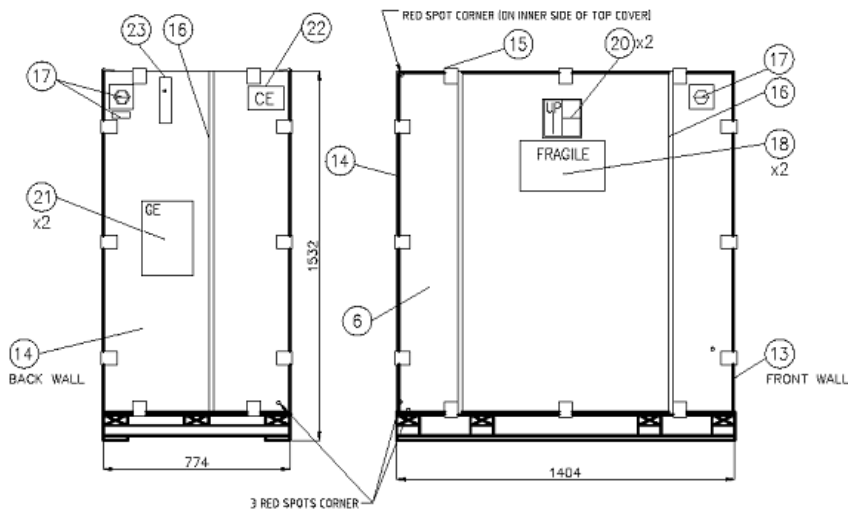

Figure 3-1 Vivid™ 3 - Wooden Shipping Crate
- 1) Locate and remove the clip remover tool (item 23) that is secured on the outside of the wooden crate, as shown in Figure 3-1, above.
Note: Unless otherwise specified, referenced items are shown in Figure 3-1 on page 3-4.